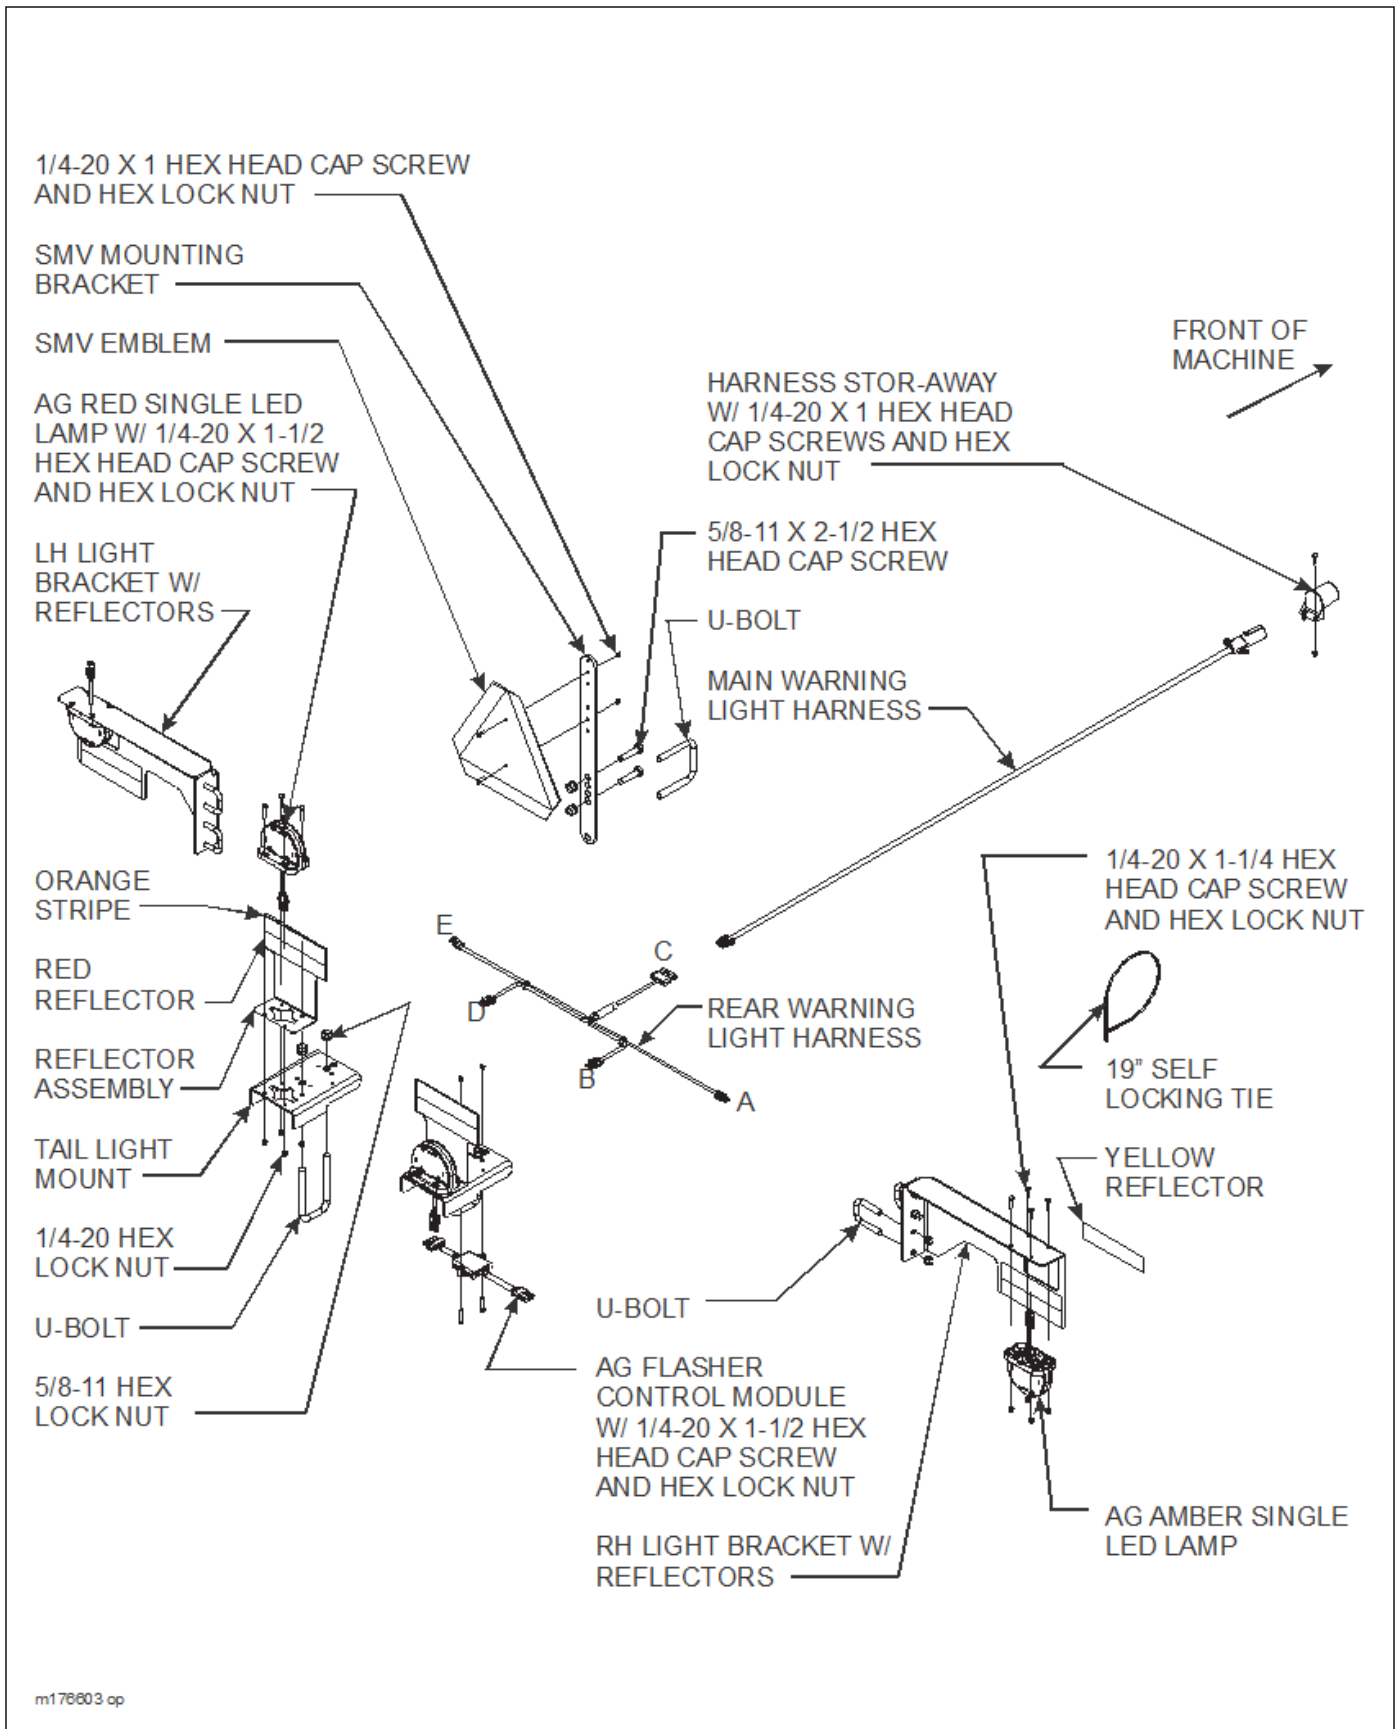

Figure 3-7: LED Light and SMV Bracket Installation (After August, 2013)
1. Attach left and right light bracket assemblies with reflectors to center frame using u-bolts and hex lock nuts See Figure 3-7. The yellow reflectors will face forward on the machine. Note that the ag amber single LED lamps are already assembled in the brackets.